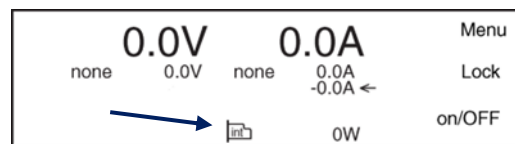

fig 10 - 3
The data provided by 16-bit Format A can be found in figure 10 – 5.
The scaling for the 16 format is described in figure 10 – 6.
For programming status, please refer to figure 10 – 8.
- All formats use the same Status Registers as shown in figure 10 – 7.